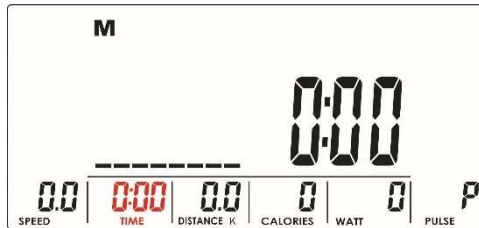
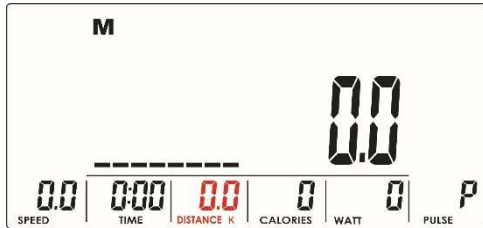
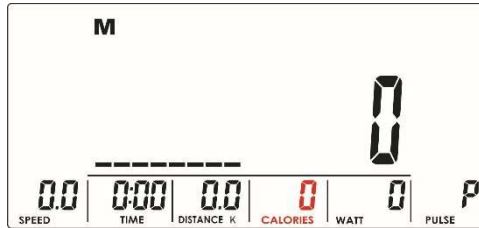
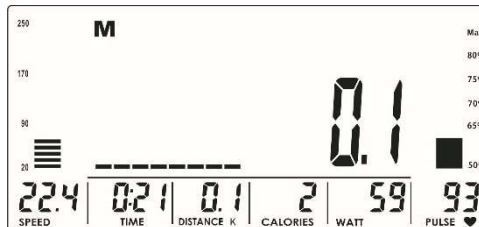

Fig. 05
Fig. 06
Fig. 07
Fig. 09
3. Set the TIME (Fig. 05), DISTANCE (Fig. 06), CALORIES (Fig. 07), and PULSE (FIG. 09) by pressing the UP or DOWN button. Confirm your selection with MODE.